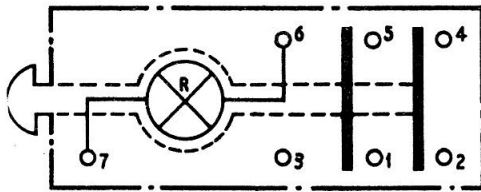

Fig. 3. Circuit diagram
4. A lamp fitted inside the switch makes contact with terminals 6 and 7, the centre contact via a spring-loaded contact assembly to terminal 7. When the operating knob is depressed (fig. 3), the moving contacts bridge